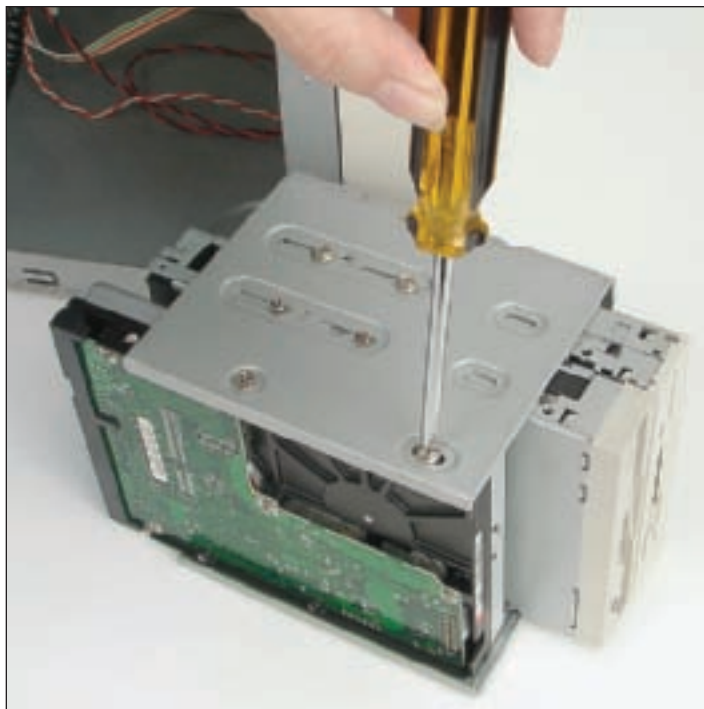

Figure 8-39 Position the hard drive flush with the end of the bay
1. Remove the bay from the case and insert the hard drive in the bay. You can line up the drive in the bay with the front of the computer case (see Figure 8-38) to see how drives will line up in the bay. Put the hard drive in the bay flush with the front of the bay so it will butt up against the computer case once the bay is in position (see Figure 8-39). Line up other drives in the bay so they are flush with the front of the computer case. In Figure 8-39, a floppy drive and Zip drive are already in the bay.